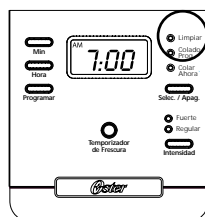

figure 8
5. Press the select “Selec./Apag.” button until the clean “Limpiar” indicator light turns on (Figure 8). For your convenience the cleaning cycle is automatic. The entire cycle will take 45–60 minutes to complete.